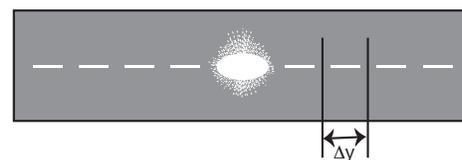

Figure 4. Diffraction Pattern.
Unlike white light with a range of wavelengths, laser light is *monochromatic* light—light of one color—and is composed of a single wavelength. When the light of a single wavelength bends around a small object, a distinctive diffraction pattern of light and dark bands is observed. The light bands are a result of constructive interference and the dark bands are a result of destructive interference (see Figure 4). The distance between the bands is inversely proportional to the width of the object. When the diffraction pattern is projected onto a screen, the distance from one dark band to the next can be measured. By using Equation 1, the width of a very thin object can be calculated.
7. Holding the laser pointer steady, press the power button. Aim the laser beam directly at one of the objects in the frame. When the laser is positioned correctly, a horizontal diffraction pattern of light and dark bands will be seen on the screen, with a brighter red spot in the middle (see Figure 4 from the *Background* section).